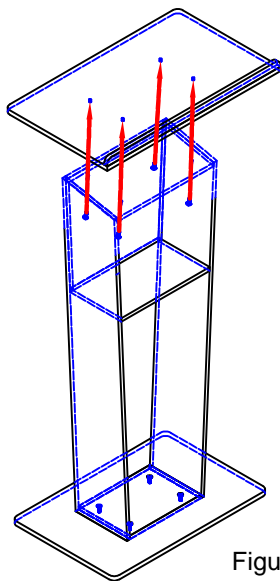

Figure 3
1. Position the Reading Top over the Body as illustrated in Figure 3.
3. Using the provided Screwdriver, attach the Reading Top to the Body with (4) Flat Head Screws as illustrated in Figure 3.